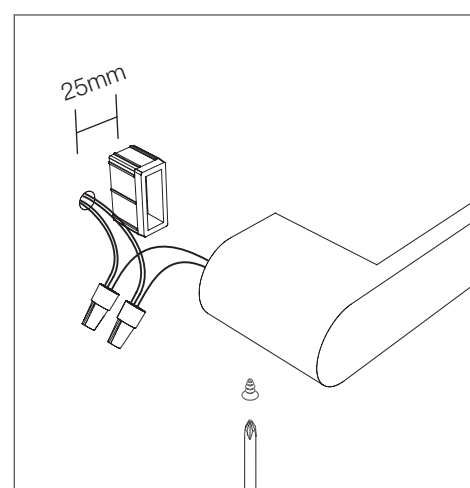

Fig 5.0
- Finally, fix the towel rail in position using the small stainless steel screws provided. See Fig 5.0